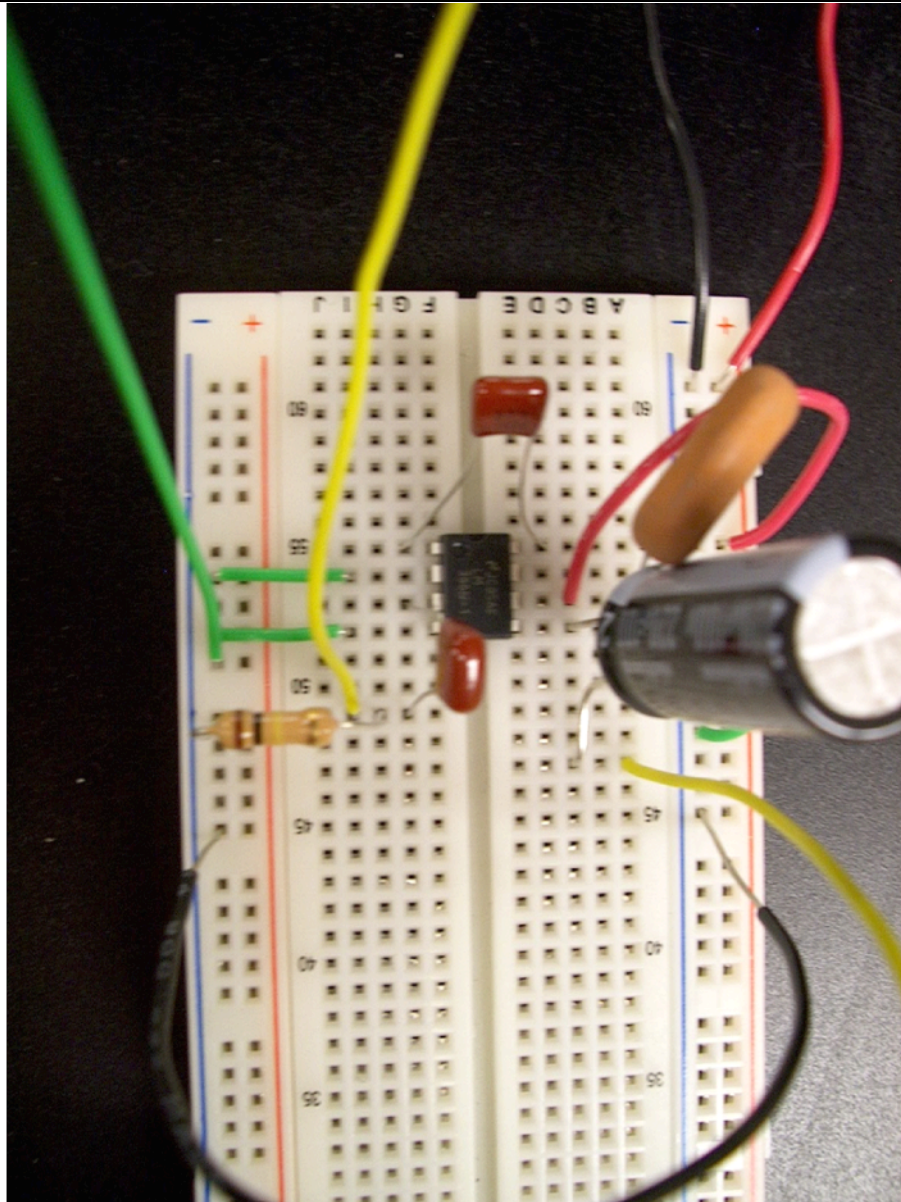

Figure A7. Step 11 of amplifier assembly.
10. Finally, connect the two ground buses together with a wire (black in Figure A7). Double check that you have not connected either ground bus to the positive (red) bus. The ground bus on the right is the one with the *black* wire.